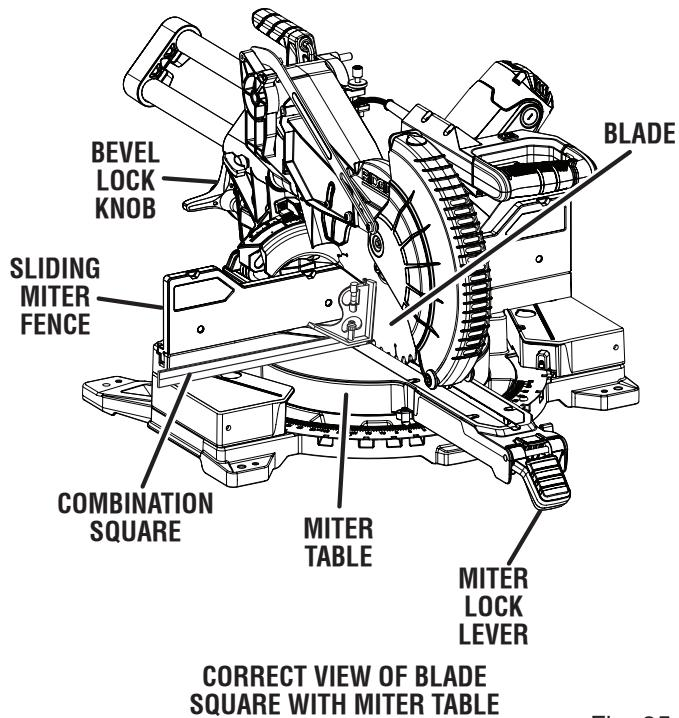

Fig. 25
See Figures 25 - 27
- The edge of the square and the saw blade should be parallel as shown in figure 25.